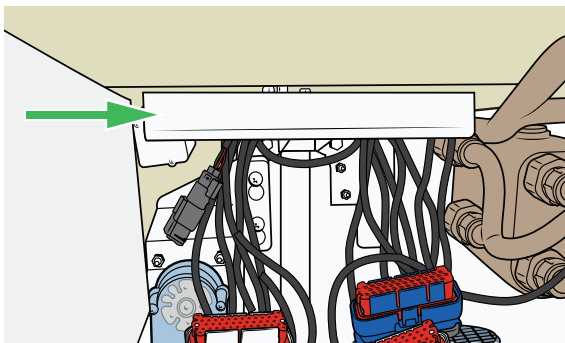

Figure 37
20. Unhook the cable tray to access the cables. See Figure 37.